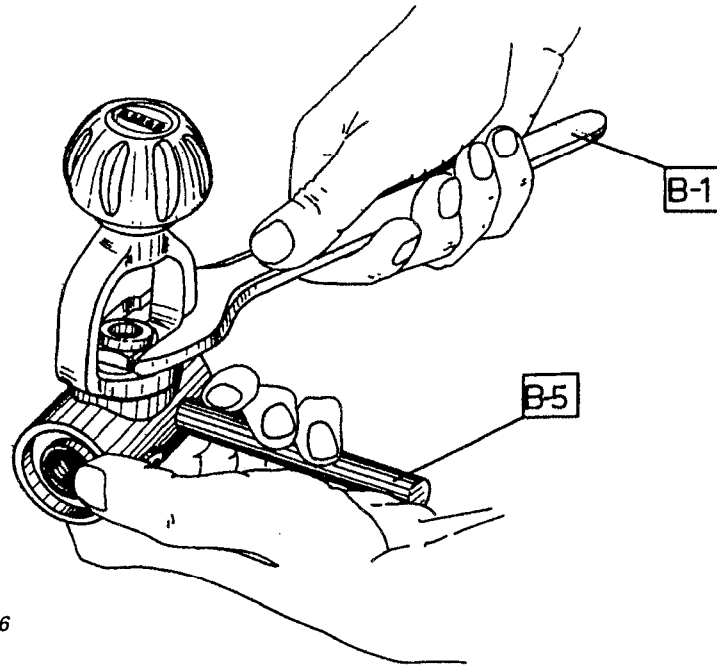

FIG. 6
13. Unscrew the yoke retainer nut (7) using the special wrench (B-1); Remove the yoke (3) together with knob (25), and the connector (154) with O-ring (153). (Fig. 6).